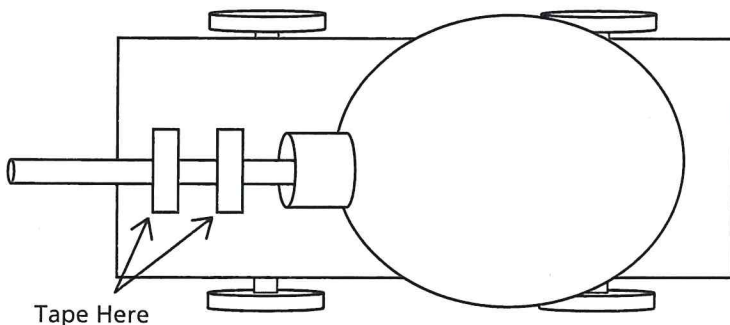

Figure 4: Balloon/Assembly Taped to the Race Car
5. Attach the balloon/straw assembly to the top of the car with tape (Figure 4).